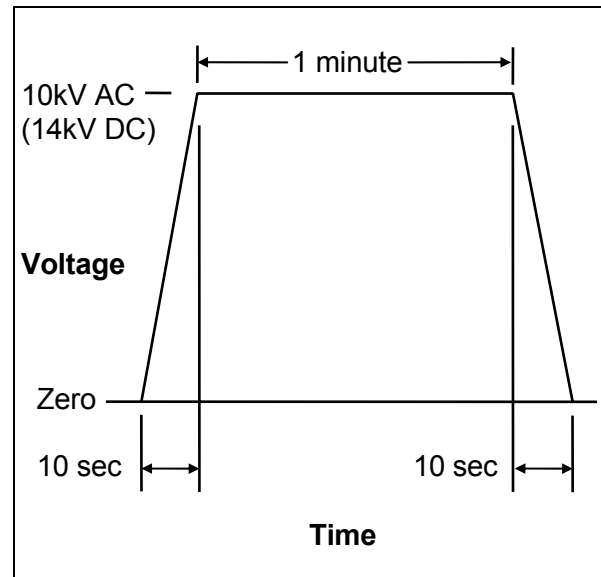

Figure 12 - Application of Test Voltage for Vacuum Check
3. Increase the voltage from zero to 10kV AC at a rate of approximately 1kV per second. Hold the voltage at this value for 1 minute and observe the current drawn by the interrupter. See Figure 12.